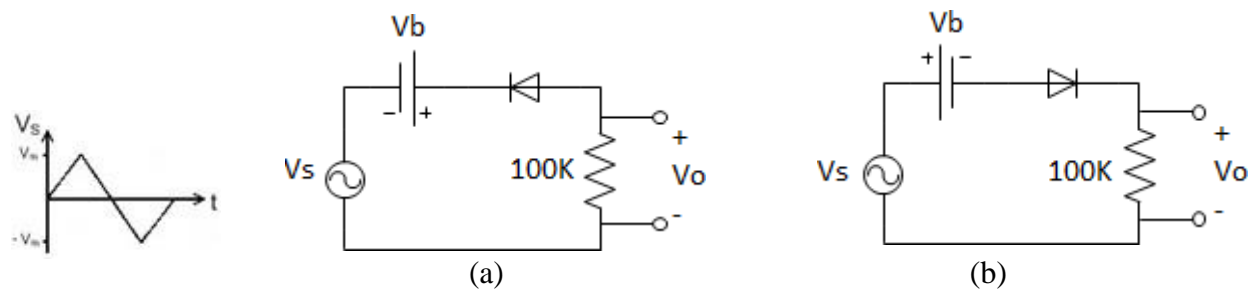
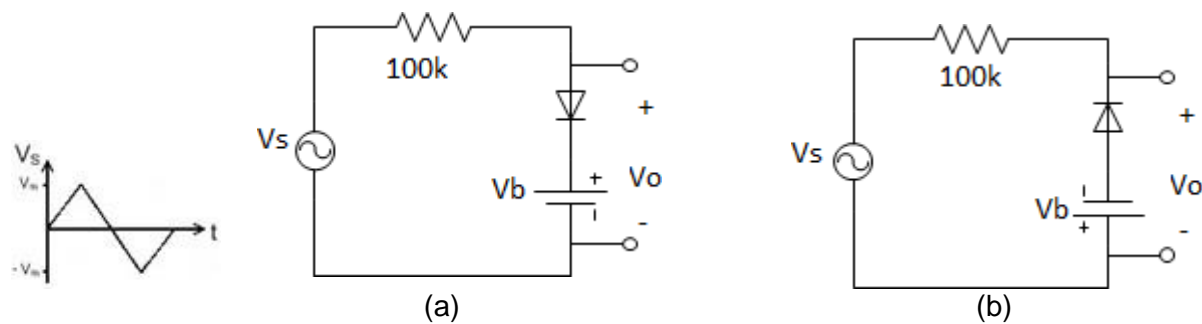
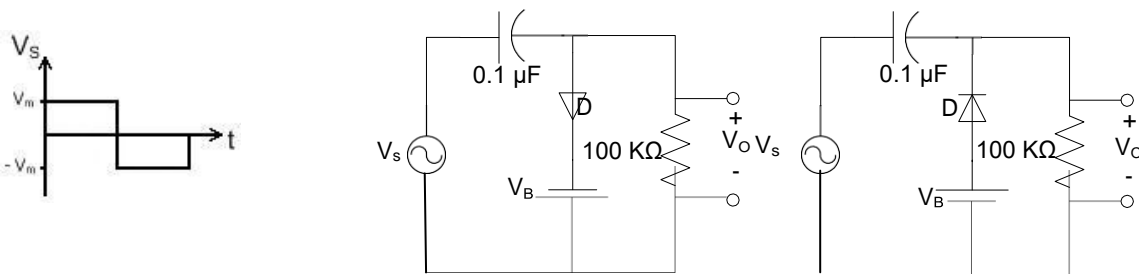

Figure 4.6: Series Clipper Circuit
Figure 4.7: Parallel Clipper Circuits
Figure 4.8: Clamper circuit
1. Connect the circuit as shown in the figure 4.6.
Input-output Fig 4.6 (a)
Input-output Fig 4.6 (b)
Input-output Fig 4.7 (a)
Input-output Fig 4.7 (b)
Input-output Fig 4.8 (a)
Input-output Fig 4.8 (b)
2. For Fig 4.6(a &b), Fig4.7 (a & b) and Fig 4.8 (a & b) what change did you observe in the output voltage, in procedure-4? Explain the reason behind such a change.
3. For Fig 4.6(a &b), Fig4.7 (a & b) and Fig 4.8 (a & b) what change did you observe in the output voltage, In procedure-5? Explain the reason behind such a change.